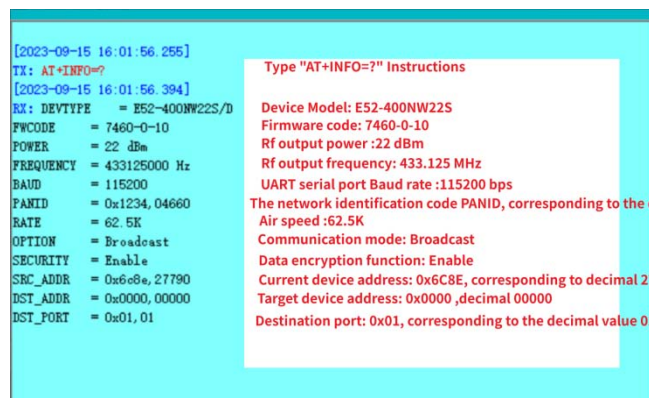

Figure 8.1.1 AT+INFO=? command
- The main parameters of the module can be obtained through the "AT+INFO=?" AT command. It is mainly used for serial port display, as shown in Figure 8.1.1.